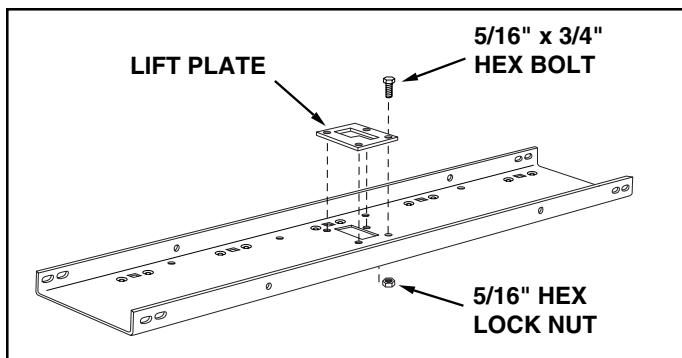

FIGURE 1
1. Assemble the lift plate to the top of the tine shield using four 5/16" x 3/4" hex bolts and 5/16" hex lock nuts as shown in figure 1. **Tighten.**